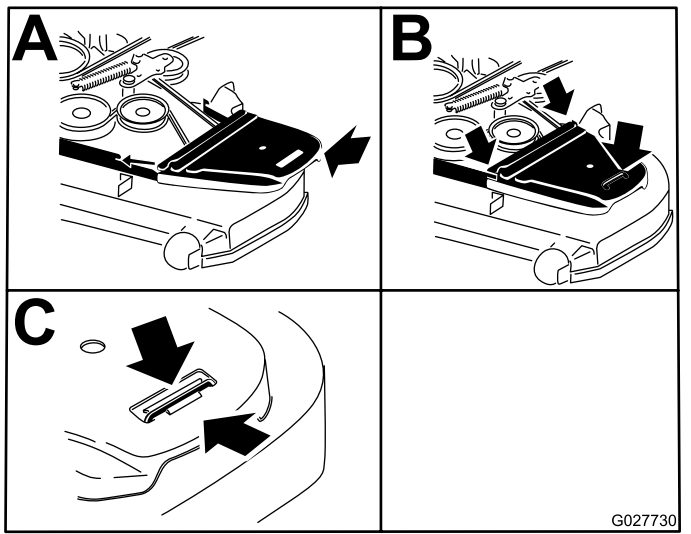

Figure 85
13. Install the belt covers (Figure 85).